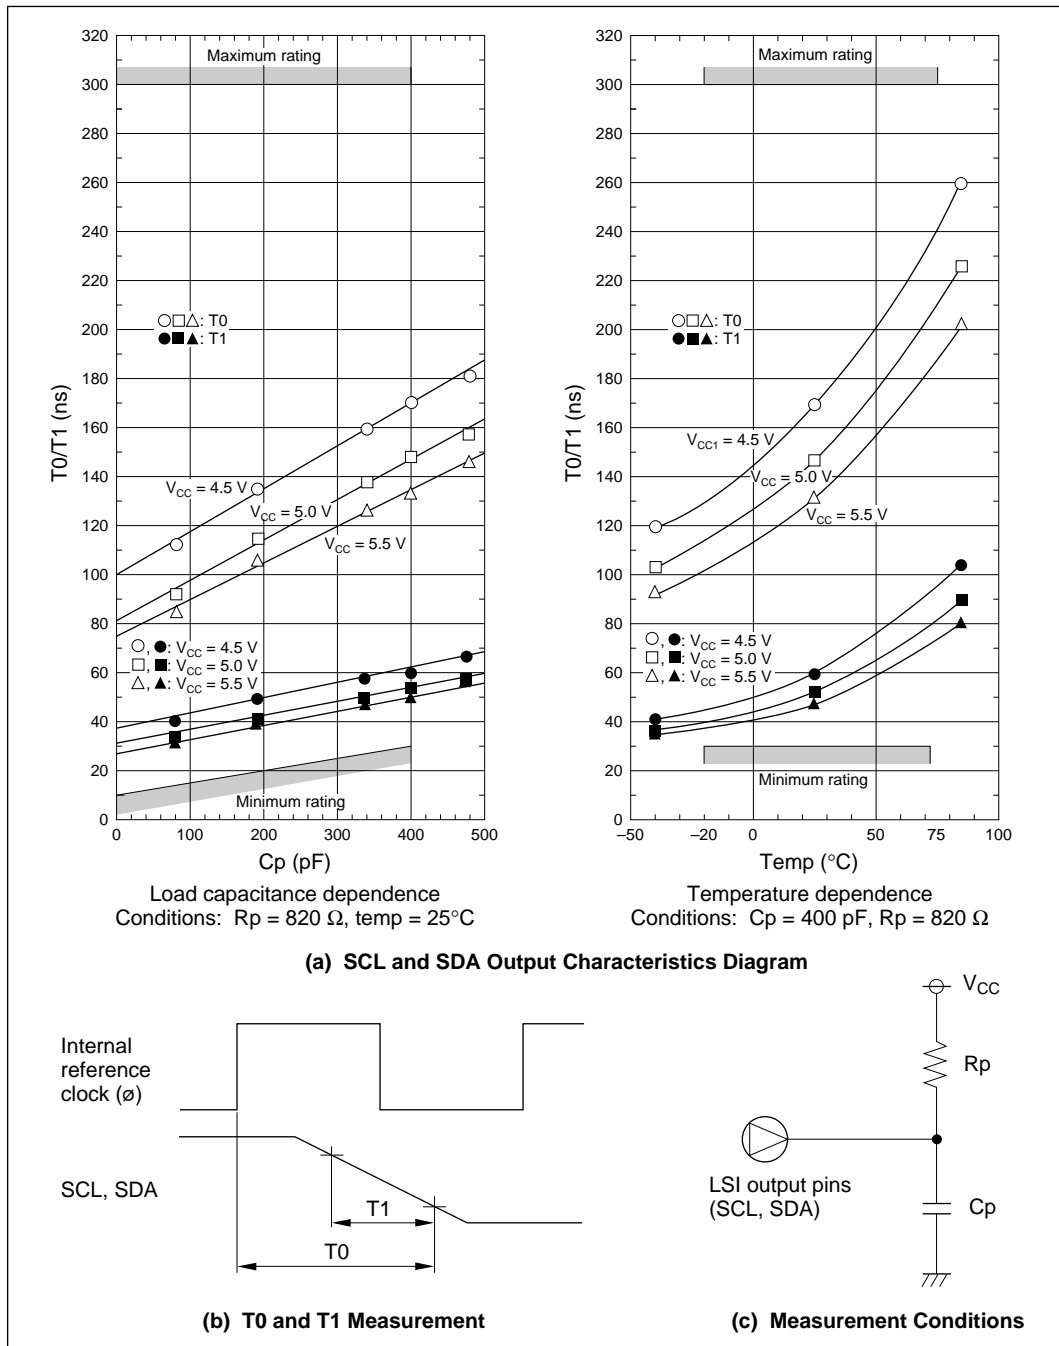

Figure 13-9 I²C Bus Interface Electrical Characteristics Diagram
2. Refer to figure 13-9 regarding characteristics of SCL and SDA fall time t_{Sf} .